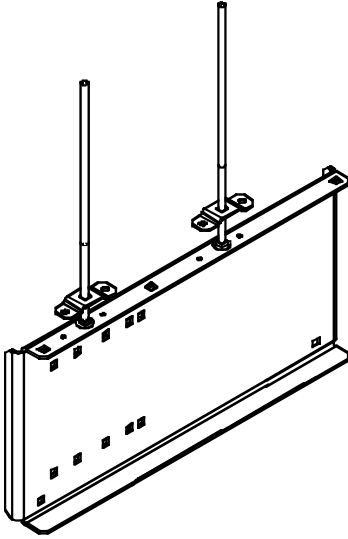

Figure 4
3. Assemble 12" Carriage Bolts (item #12) to Motor Mount (item #1) using two Motor Bracket (item #2) and four screws (item #13). Thread two Nuts (item #8) about half way down the Carriage Bolts. The sub assembled parts should look like figure 4.